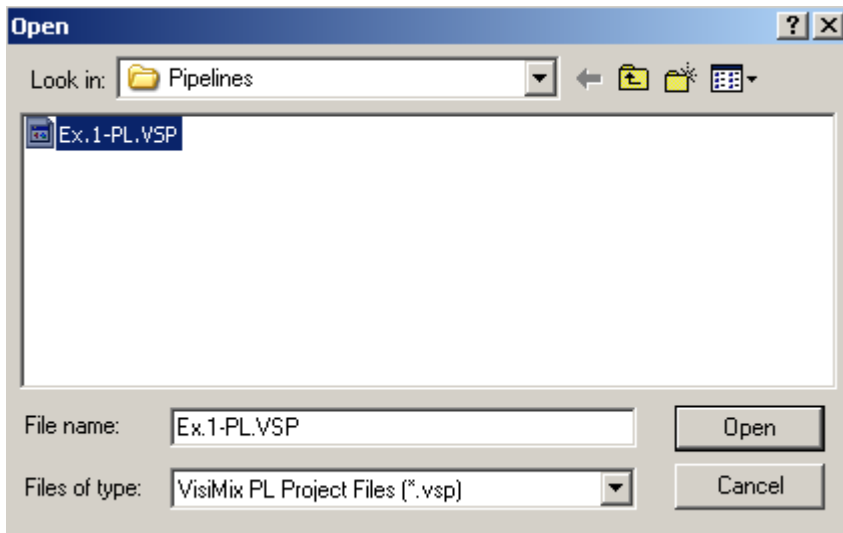

Figure 4.
1. Select **Open** from the **Project** menu. The **Open** dialogue appears (Figure 4).